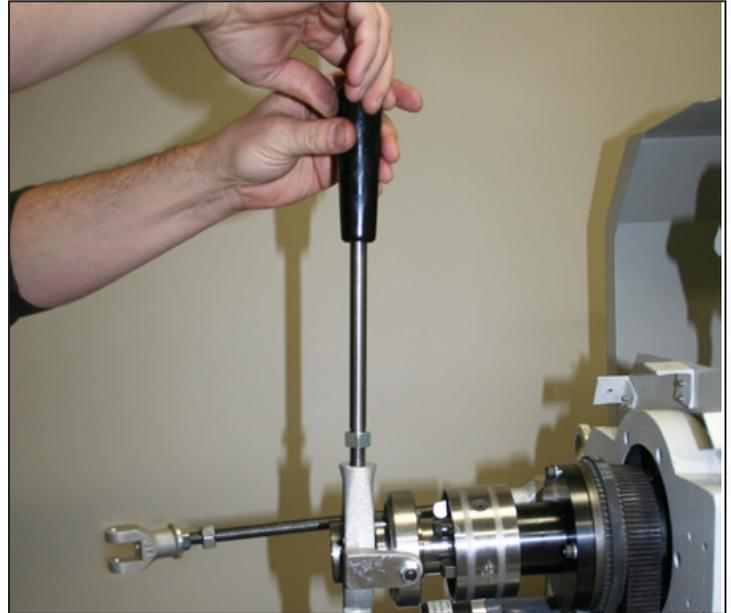

Figure 16
20. Screw Collet Handle into Collet Closer; tighten securely (see **Figure 16**).